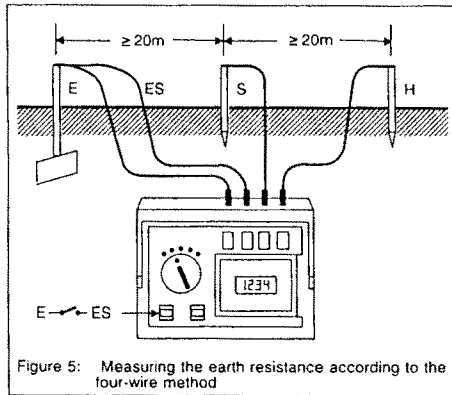

Figure 5: Measuring the earth resistance according to the four-wire method
- Site the spikes for search electrode and auxiliary earth electrode as shown in Figure 5 and as described in the following sections.
- Place the E/ES switch (6) into an "open" state (pushbutton not depressed).